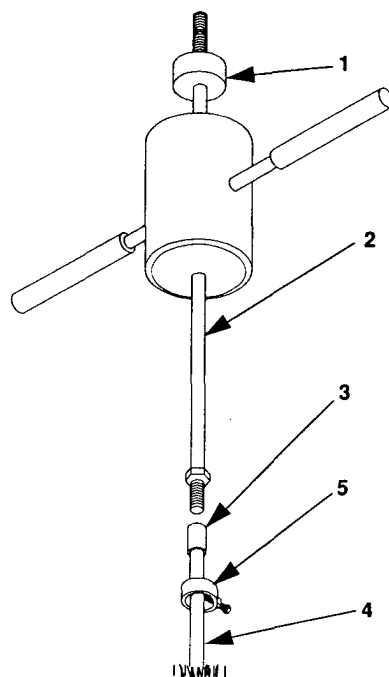

Figure 2-15. Remove Ground Rod.
- (1) Refer to figure 2-15 and position slide hammer above ground rod coupling (3). Invert slide hammer so that end having impact disk (1) is up. Connect slide hammer rod (2) to ground rod coupling (3). Tighten so that end of rod (2) makes firm contact with end of ground rod section (4) inside coupling (3).
- (2) Use slide hammer to pull ground rod section (4) out of ground. Pull until second coupling (3) is exposed.
- (3) Disconnect slide hammer from top coupling (3).
- (4) Disconnect top ground rod section (4) from bottom coupling (3).
- (5) Remove clamp (5) from ground rod (4). Store clamp in accessory box.
- (6) Connect slide hammer rod (2) to coupling (3) on ground rod section (4) still in ground.
- (7) Use slide hammer to pull second ground rod section (4) out of ground. Pull ground rod section (4) until third coupling (3) is exposed.
- (8) Repeat steps (3) through (5) for third ground rod section (4).
- (9) Use slide hammer to pull remaining ground rod section (4) out of ground.